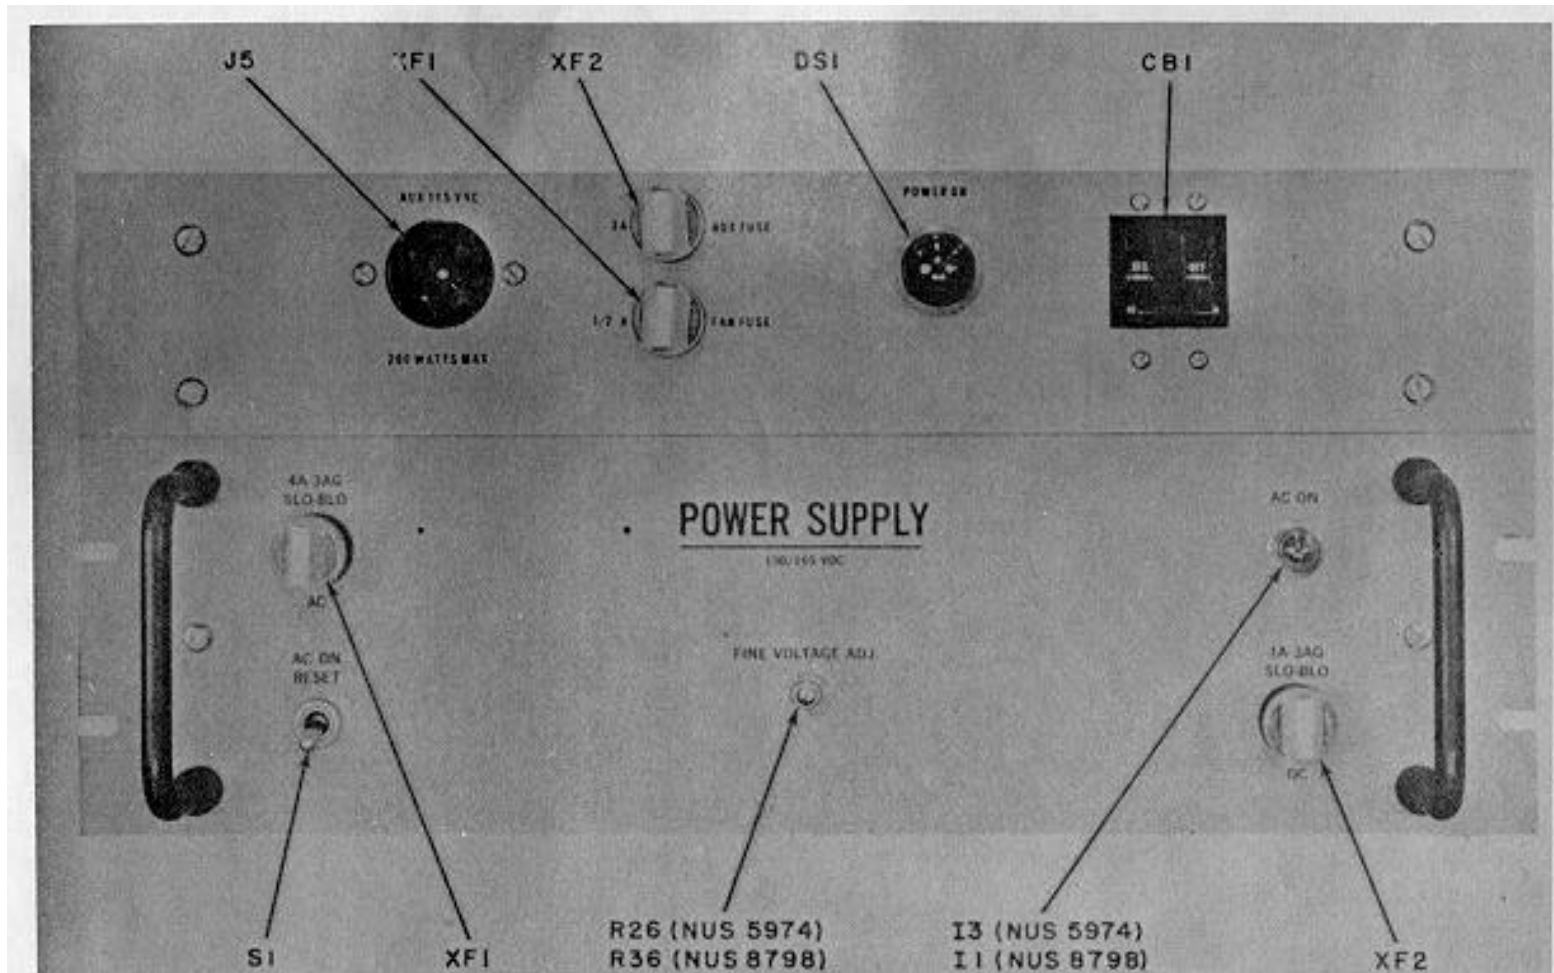

Figure 2-11. Power Supply Front Panel
- a. Check that main circuit breaker CB1 on power supply front panel (figure 2-11) is in OFF position. For line-of-sight receivers check CB1 on each Power Supply front panel.
- b. In receiver A, set MAIN circuit breaker CB1 on Power Supply drawer front panel to ON. (See figure 2-11.) Check for the following:
3-6. Turn on the receiver by setting circuit breaker CB1 on Power Supply front panel to the on position. (See figure 2-11.)
3-8. Turn off the receiver by setting circuit breaker CB1 on Power Supply front panel to the off position. (See figure 2-11.)